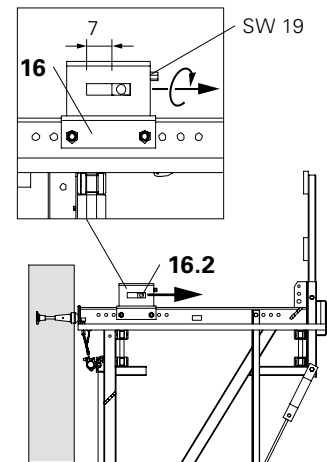
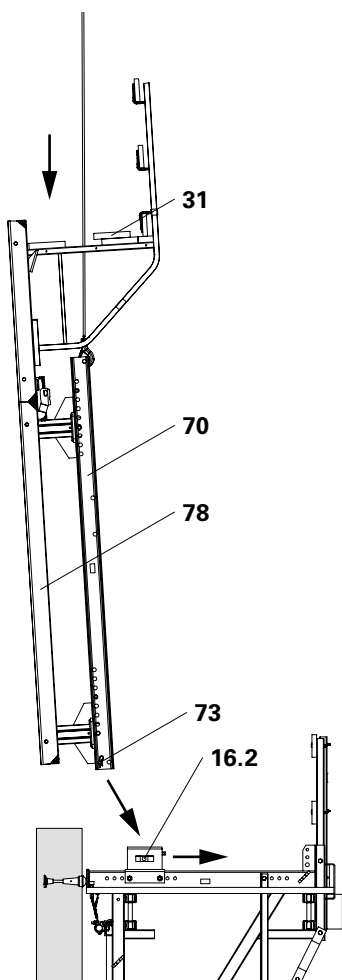

Fig. B2.17a
Fig. B2.17b
1. Completely move back the sliding block (16.2) of the Adjusting Unit CB (16), SW 19. (Fig. B2.17a)
2. Open concreting platform decking (31) above the Strongback. Secure loose decking components.
3. Attach formwork (78) together with concreting platform to the Strongback CB (70), and position on the platform. (Fig. B2.17b)
4. Fix Strongback to the Adjusting Unit CB (16) by means of Bolts \varnothing 25x180 (73) and Cotter Pins 4/1. Standard case: use those holes in the Strongback facing the wall. (Fig. B2.17b)